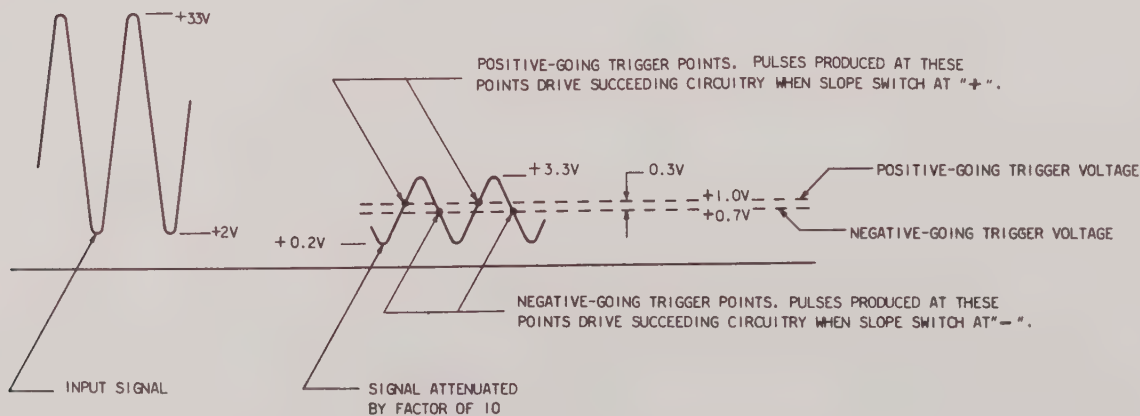

FIGURE 7.
Figure 7 shows how the varying voltage of the attenuated signal triggers channel output pulses. A pulse is produced each time the instantaneous voltage of the attenuated signal passes through the "positive-going trigger voltage". Another pulse is produced each time the instantaneous attenuated voltage passes through the "negative-going trigger voltage" starting from a value more positive than the "positive-going trigger voltage". When the SLOPE switch is at "+", only pulses triggered by positive-going voltage excursions affect the succeeding circuitry. With the SLOPE switch at "-", only pulses triggered by negative-going excursions are effective.
The purpose of the input trigger channel is to produce a reliable pulse output representing that part of the input signal in which the operator is interested. This is achieved only when the ATTENUATION and TRIGGER VOLTAGE controls are properly adjusted. Before attempting to adjust the controls, it is best to visualize the input waveform, noting the shape, a-c amplitude and d-c level. The effect of various control settings is then relatively easy to calculate. Referring to Figure 7, notice that:
1. If the attenuated signal is small peak-to-peak, the trigger voltage levels may be set so far positive or so far negative that no pulses are produced. In Figure 7, for example, if the "positive-going trigger voltage" were set at -0.5 volts (thus placing the "negative-going trigger voltage" at -0.8 volts) the attenuated signal with peaks at +0.2 and +3.3 volts would not intersect either trigger voltage level.
2. If the attenuated voltage variations ride on a d-c level, they may not come within the trigger voltage range. In Figure 7, again, if the input signal were not attenuated (or a-c coupled) the negative peak at +2 volts would not intersect any possible trigger voltage level.